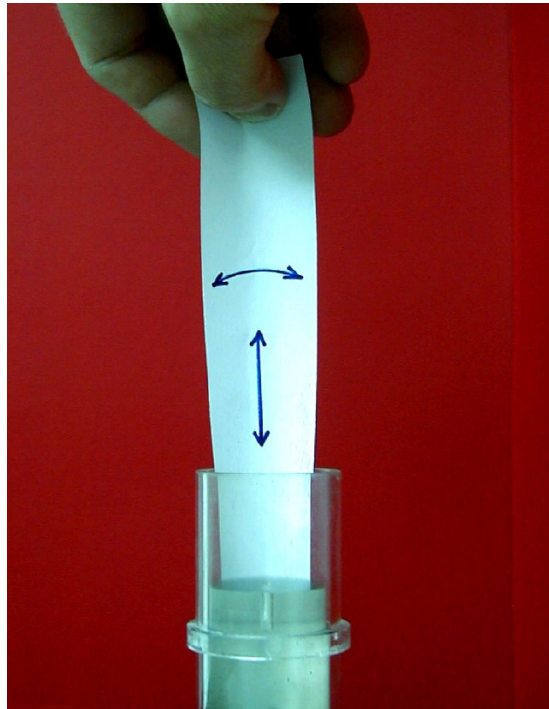

Figure 4
- Clean the space between outer tube and inner cylinder using the paper strips. Move with the paper along the surface of the inner cylinder and simultaneously (a little bit) move it up and down, as you can see in Figure 4.